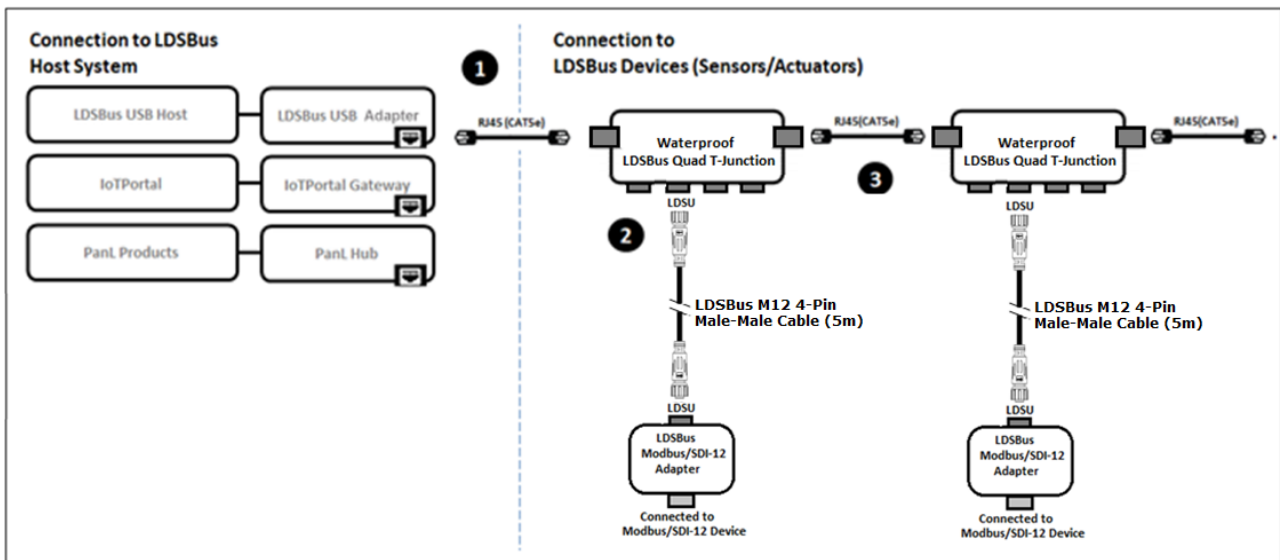

Figure 6 - LDSBus Modbus / SDI-12 Adapter with Waterproof LDSBus Quad T-Junction in LDSBus System
Figure 6 illustrates the connection of the LDSBus Modbus / SDI-12 Adapter interface with Waterproof LDSBus Quad T-Junction in the LDSBus system.
3. If there is more than one LDSBus Quad T-Junction, chain them together as shown in Figure 6.